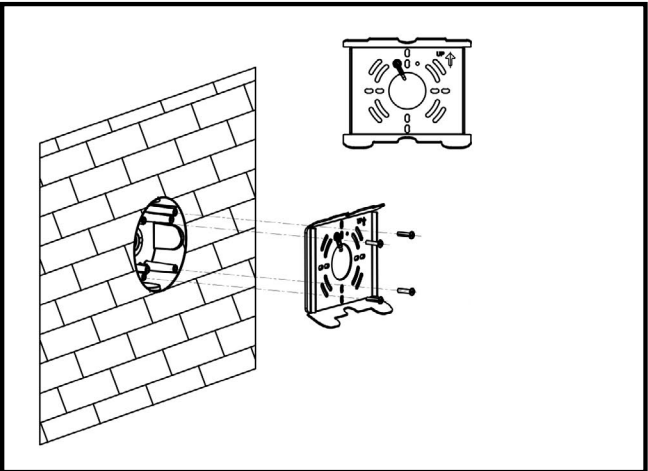

Figure 4.
4. Attach the wedge plate to the wall or junction box (figure 4.) Wedge plate must be mounted with hardware able to support a fixture weight of up to 25 lbs.